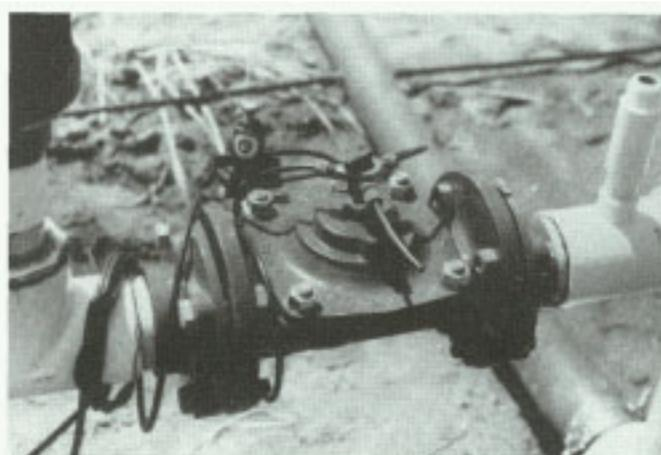

Figure 10. This is an example of a hydraulic pressure valve which also controls pressure. The vertical pipe on the right provides an air vent.
**VALVES.** All systems need an on-off valve, and if your water source is a well or municipal water you must use an antisiphon backflow preventer. The simplest valve for a drip system is a gate valve, and on very small systems where the pressure is constant, the gate valve can also serve as a pressure regulator. Solenoid valves, either electric or hydraulic (Figure 10), are essential if you plan to automate your operation or separate the field into zones. Solenoid valves allow you to switch from one zone to another zone and to turn the system on and off. Solenoids can be manually switched, but usually some sort of electric controller is used.